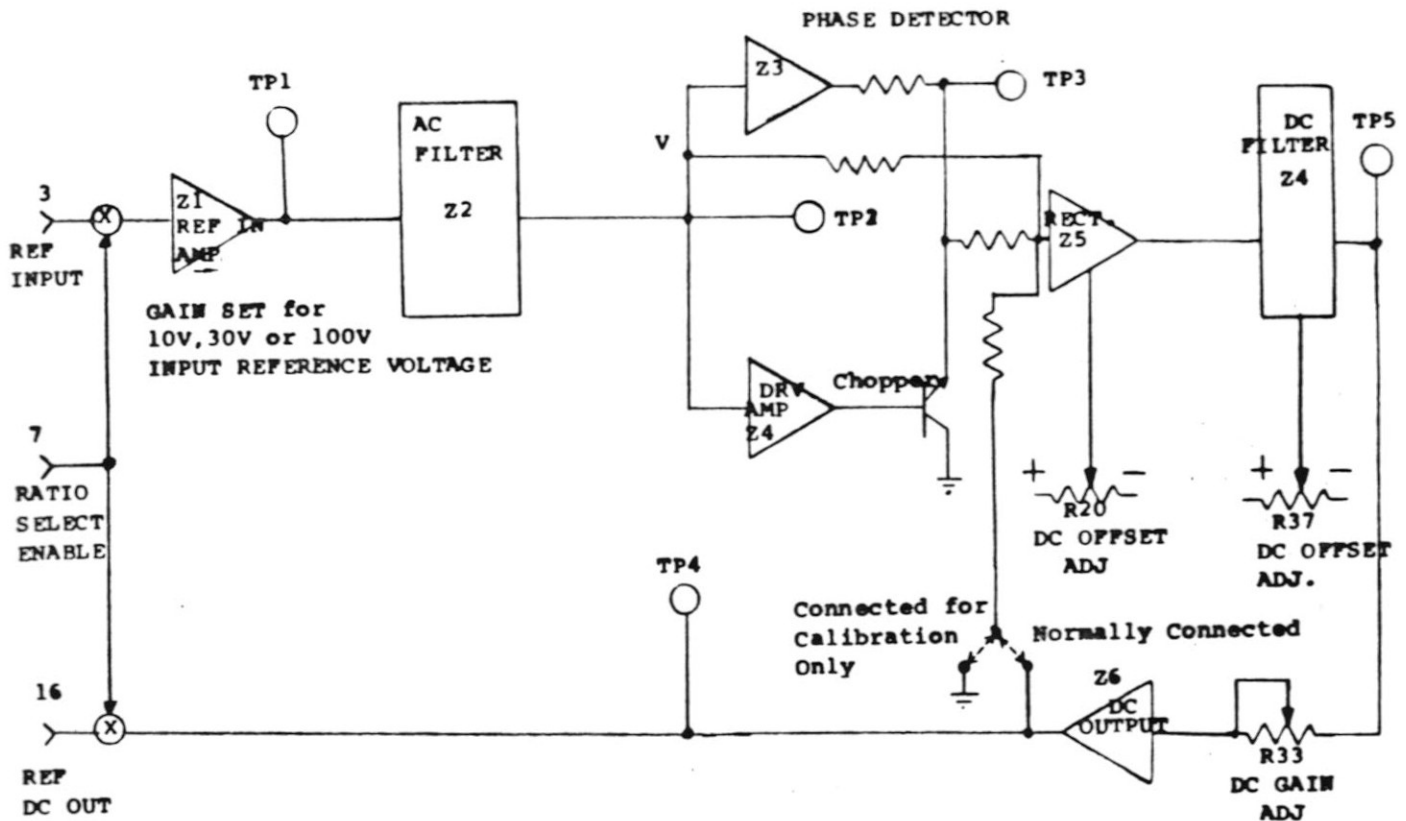

Figure D-2. Ratio Card Block Diagram
The reference input voltage (containing all harmonics and noise) is fed from reference transformer T2 to the ratio mode card. Basically, this card consists of an ac filter, a demodulator, and a dc filter. The output of this card is a dc voltage proportional to the ac reference input voltage. A block diagram of the card is shown in figure D-2.
- c. Set Reference input ratio box to 1.01 and rotate R4 on ratio switching card until OVERLOAD lamp goes out. Slowly rotate potentiometer R4 until OVERLOAD lamp just comes on. (R4 shown in figure D-2).